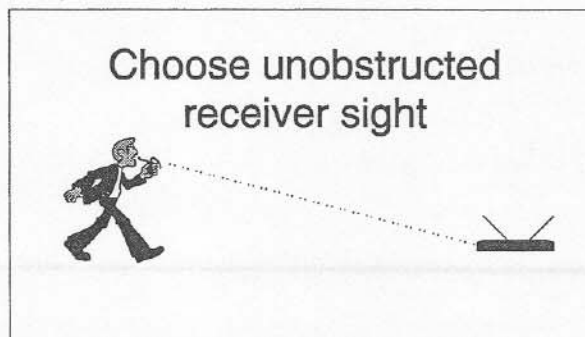

Figure 1 - Place the receiver where there is a clear line of sight to the area where the transmitter will be used.
- 1 Place the receiver where there is a clear line of sight to the area where the transmitter will be used (figure 1). Extend receiver's antenna(s) to full length.